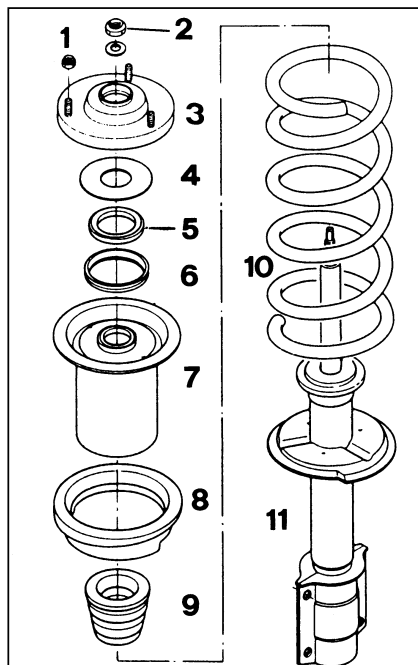

Fig. 4 **Components of the suspension strut**:
- The components should be fitted in the order shown in Fig. 4.